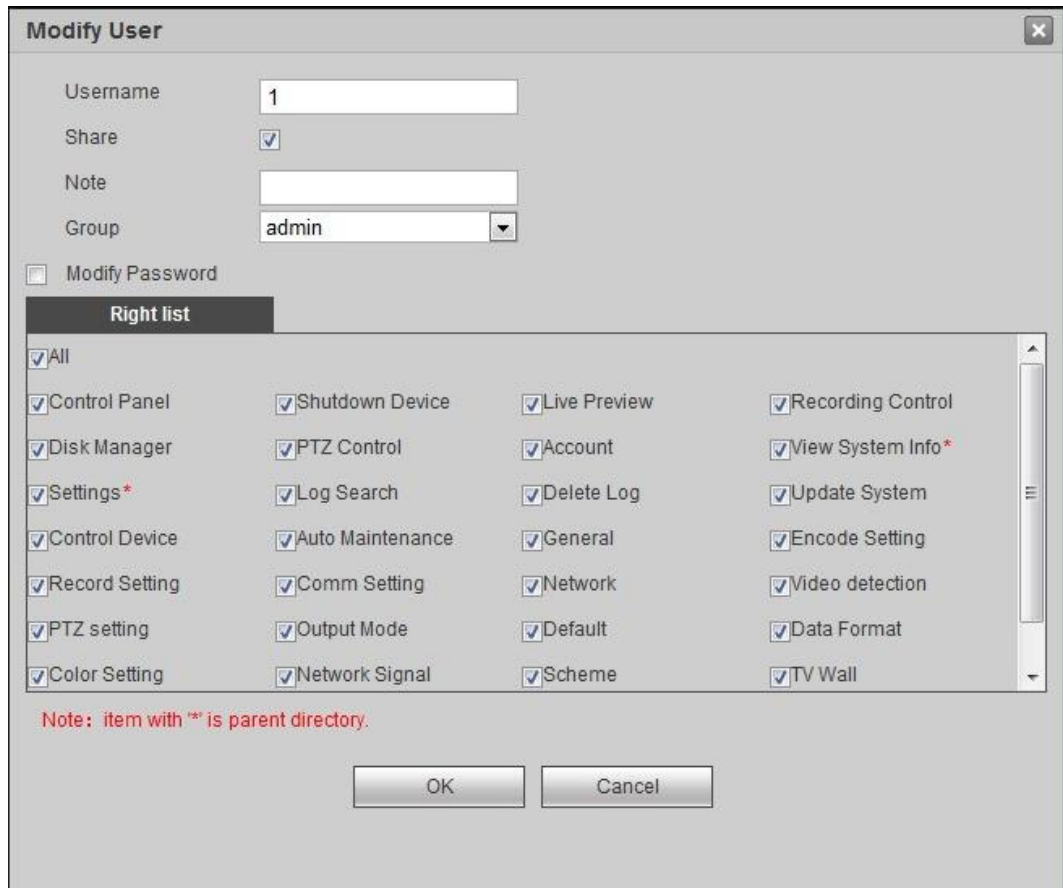

Figure 4-34
Step 1 Click  corresponding to the user. The system pops up "Modify User" interface, as shown in Figure 4-34.